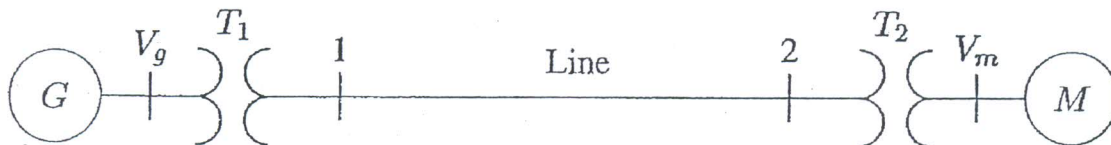

Figure 1
- 1.b. The three phase power and line to line voltage ratings of the power system shown in fig.1 are given below.